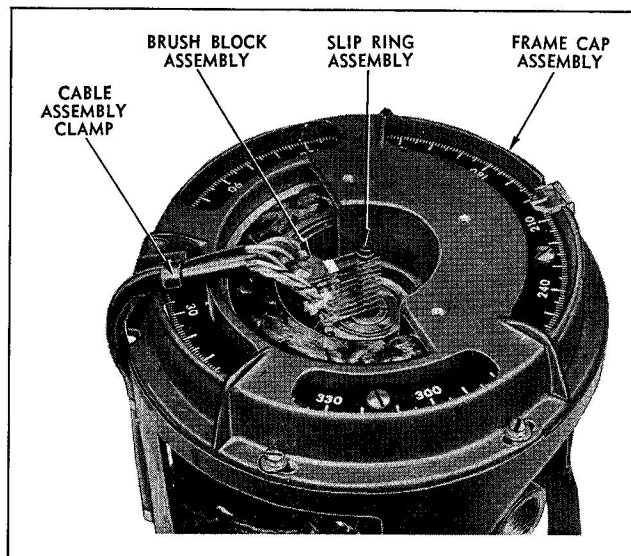

Figure 2-4 Close-Up of Slip Ring Assembly And Frame Cap
(2) **Remove fillister-head screw securing the cable assembly clamp to the frame cap assembly.** (See figure 2-4). The cable is now sufficiently free to permit removal of the brush block assembly.